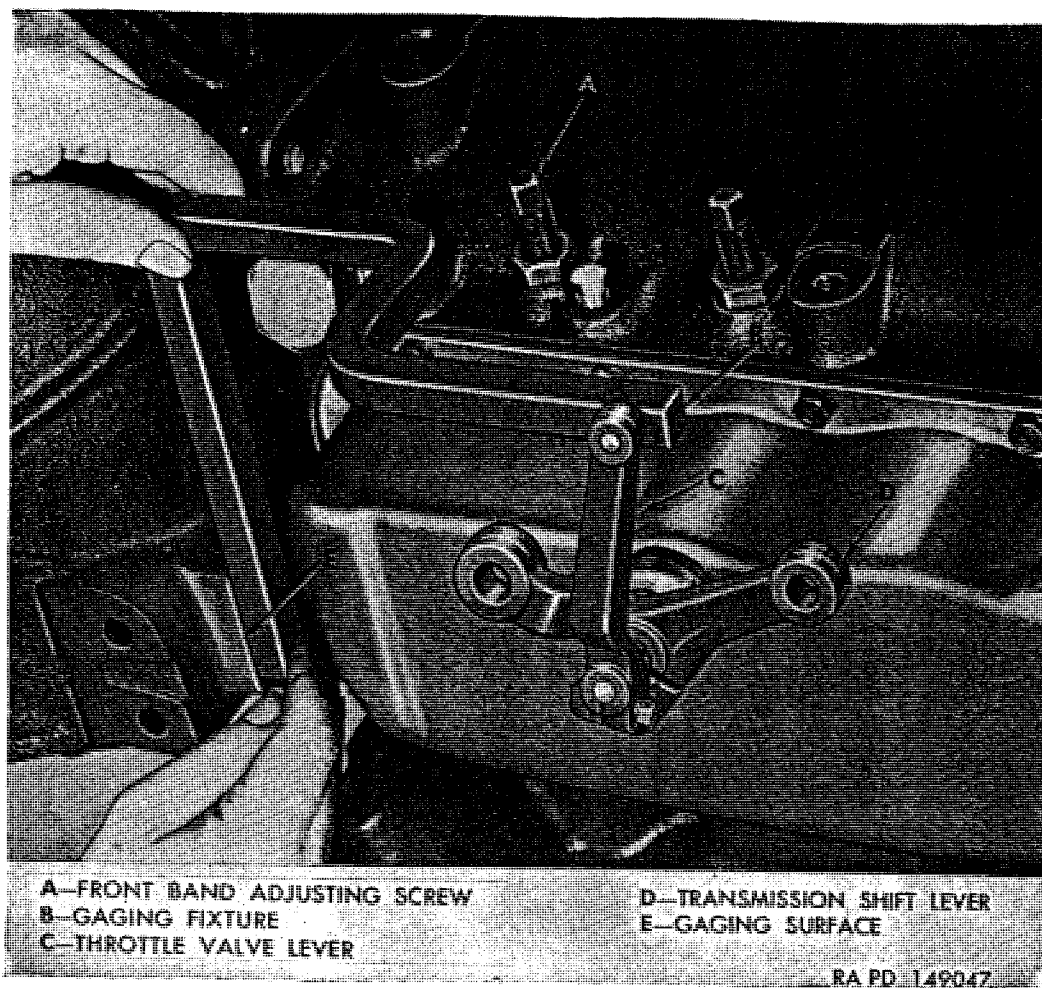

Figure 194. Using gage—B7950168 to adjust throttle valve lever.
- (b) Hold transmission throttle valve lever gage B7950168 against machined surface of fly wheel housing rear half as shown in figure 194. Using clevis pin previously removed, check for free pin in closed position of throttle valve lever (C, fig. 194).
- (a) Disconnect throttle valve control rod (K) from throttle valve lever (L) by removing cotter pin and clevis pin (M).
- (b) Hold transmission throttle valve lever gage B7950168 against machined surface of flywheel housing rear half (N) as shown in figure 194. Using clevis pin (M) previously removed, check for free pin in closed position of throttle valve lever (L) as shown in figure 194.